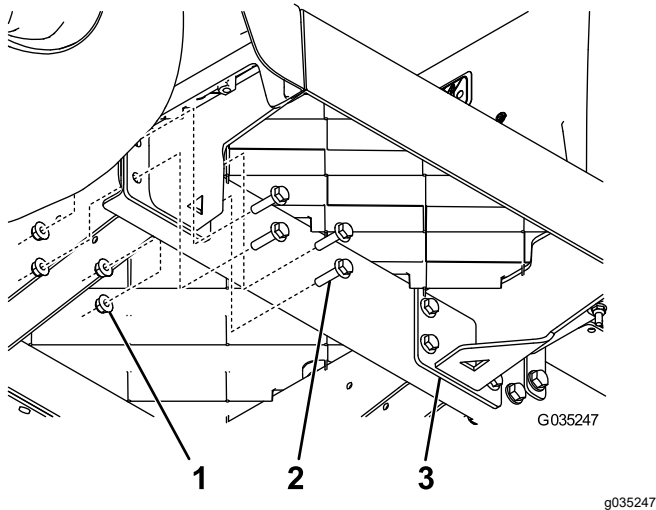

Figure 5
4. Install a new floor-plate support using 8 flange-head bolts (5/16 x 1-1/4 inches) and 8 flange nuts (5/16 inch) as shown in Figure 5.
6. Install the other new floor-plate support using 8 flange-head bolts (5/16 x 1-1/4 inches) and 8 flange nuts (5/16 inch) as shown in Figure 5.